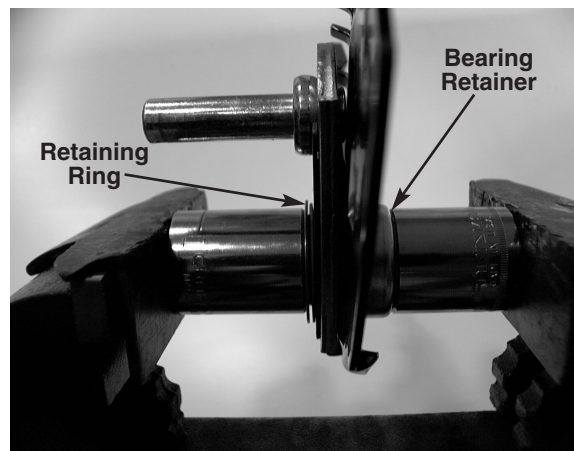

FIGURE 1.
5. Using two 1" sockets, one on the bearing retainer side and one on the retaining ring side, put the assembly into a vice. See figure 1.